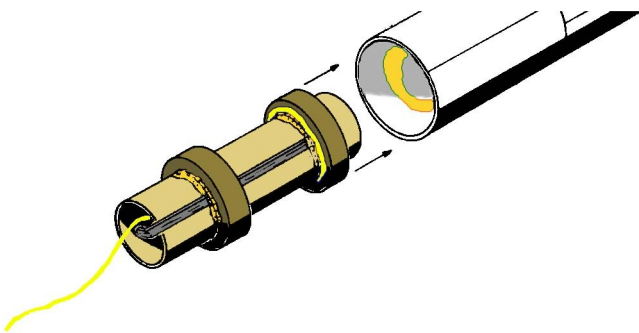

Figure 9
- **Step 19** Push the Kevlar thread down through the center of the EM-710 mount from the front and pull tight. Apply a bead of full-strength glue inside the body tube at the rear, about 1.5" up, as shown in Fig. 9. Insert the front end of the mount into the bottom of the body tube and push forward with a smooth, continuous motion until the bottom of the motor tube is even with the bottom of the body tube. Do not stop during this process, or the mount will 'freeze' in the wrong place. Allow to dry.